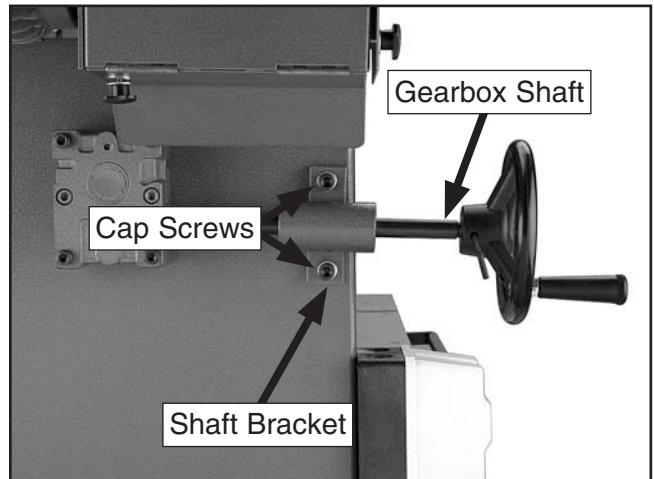

Figure 24. Gearbox shaft.
18 Remove the gearbox shaft bracket by unthreading the (2) cap screws, sliding it over the shaft, then attaching it with the removed cap screws (**Figure 24**).